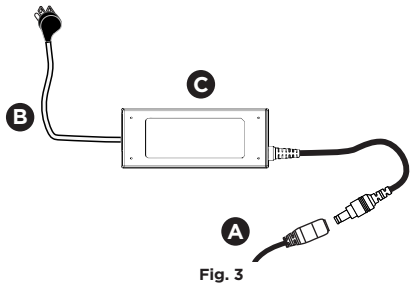

Fig. 3
6. Plug in the connector of the two **Heaters A** into the **Power Supply C** (Fig. 3).